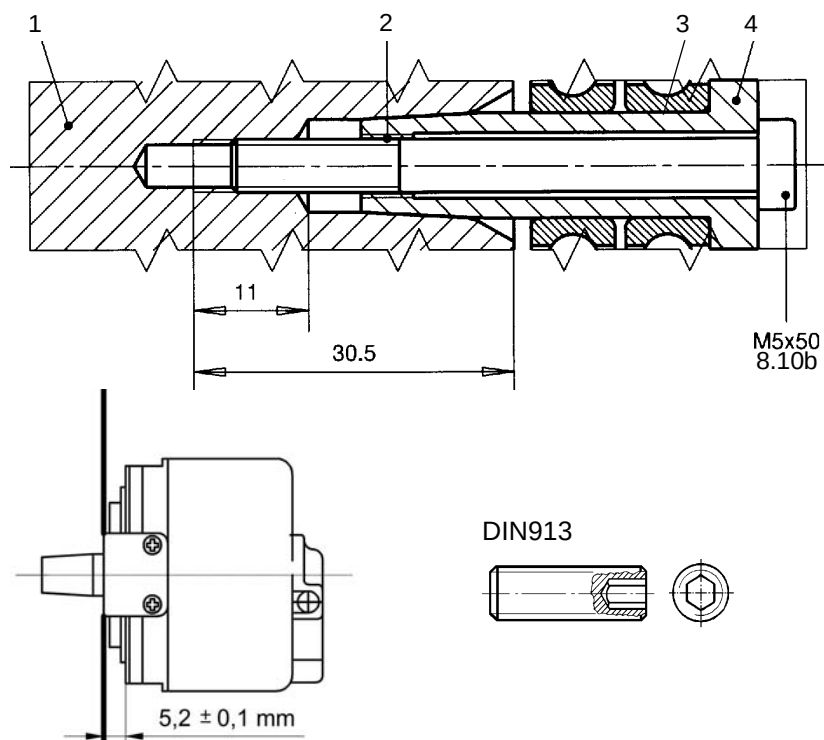

Fig. 6 Joint between motor shaft and encoder shaft
- Screw a grub screw, e. g. DIN 913-M5x30 (Fig. 6), into the end of the shaft to protect the centring bore and force off the encoder by screwing in an M6 screw.